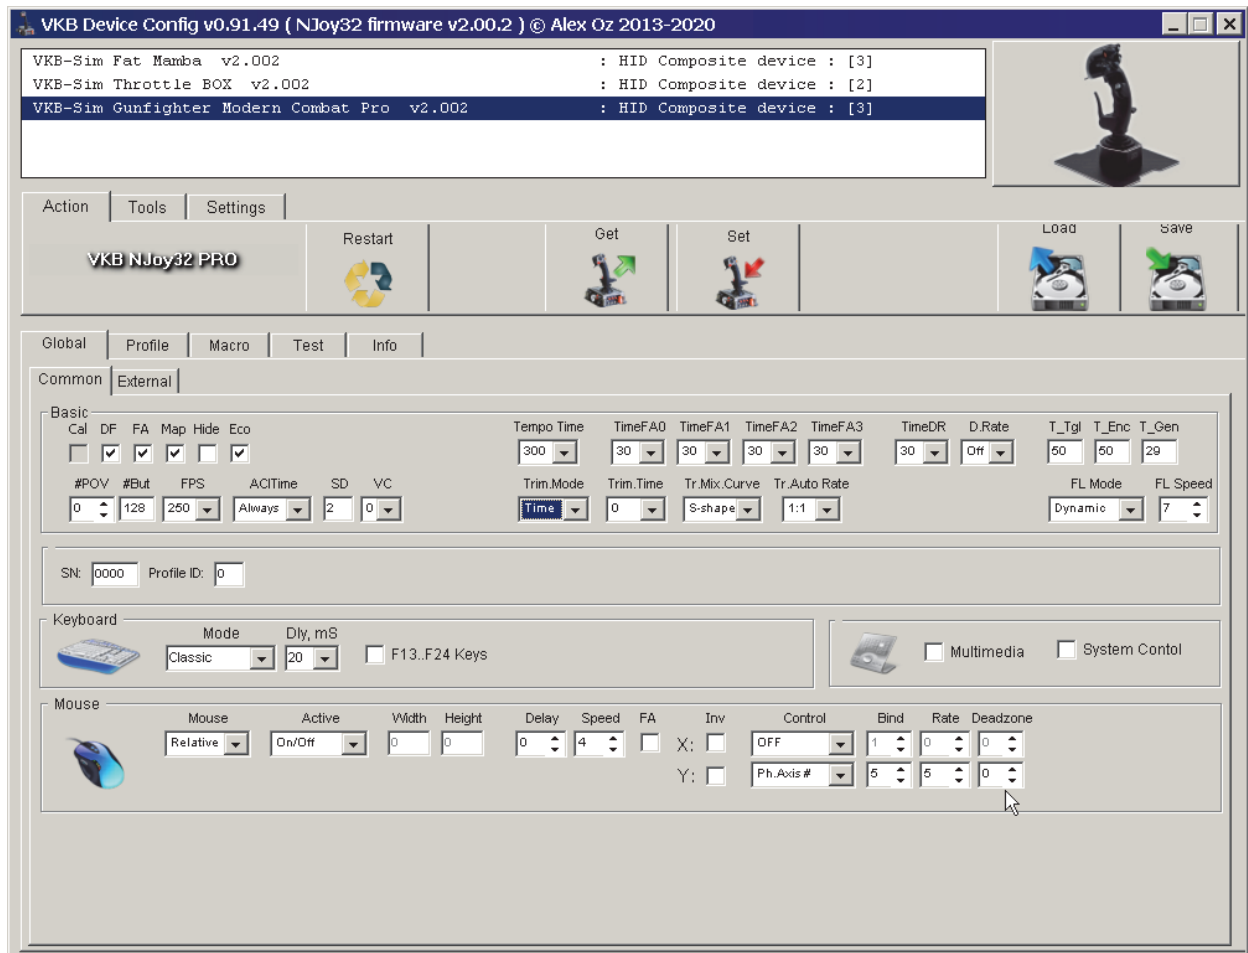

Fig. 2.1.
After you launch *VKBDevCfg-C.exe* the main **VKBDeviceConfig** window will appear. The title bar contains configurator version (Fig. 2.1).
2. Run *VKBDevCfg-C.exe*, select joystick name in the list (fig. 2.1 on p. 16).